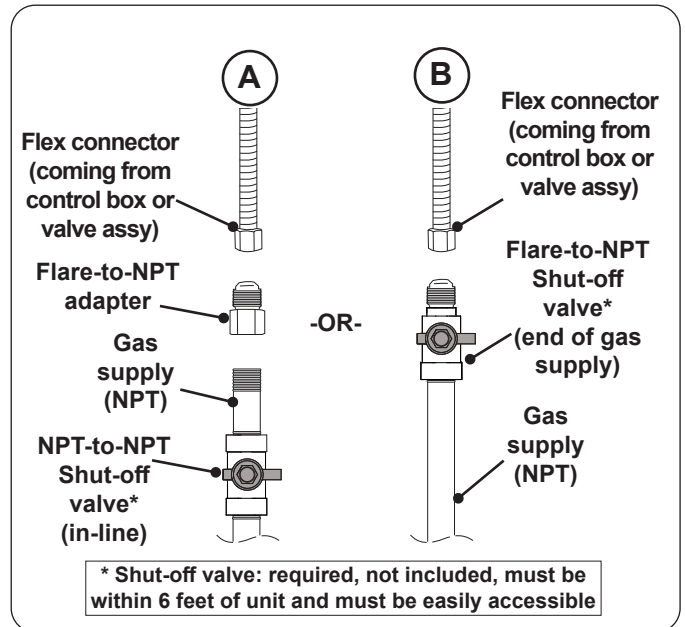

Fig. 29-1 Connecting to a gas line
- Install the supplied flare-to-NPT adapter to the gas supply (NPT) using a pipe joint compound resistant to all gasses (see Fig. 29-1, A). Tighten securely.
- Connect the flex connector to the adapter (see Fig. 29-1, A). Tighten securely.
- Connect the flex connector to the shut-off valve (flare)(see Fig. 29-1, B). Tighten securely.